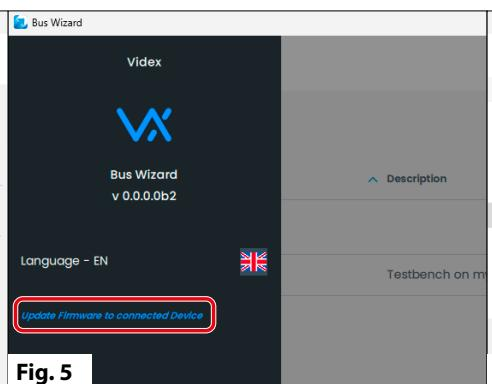

Fig. 5
4. Click on "Upload Firmware to connected device" (Fig. 5)